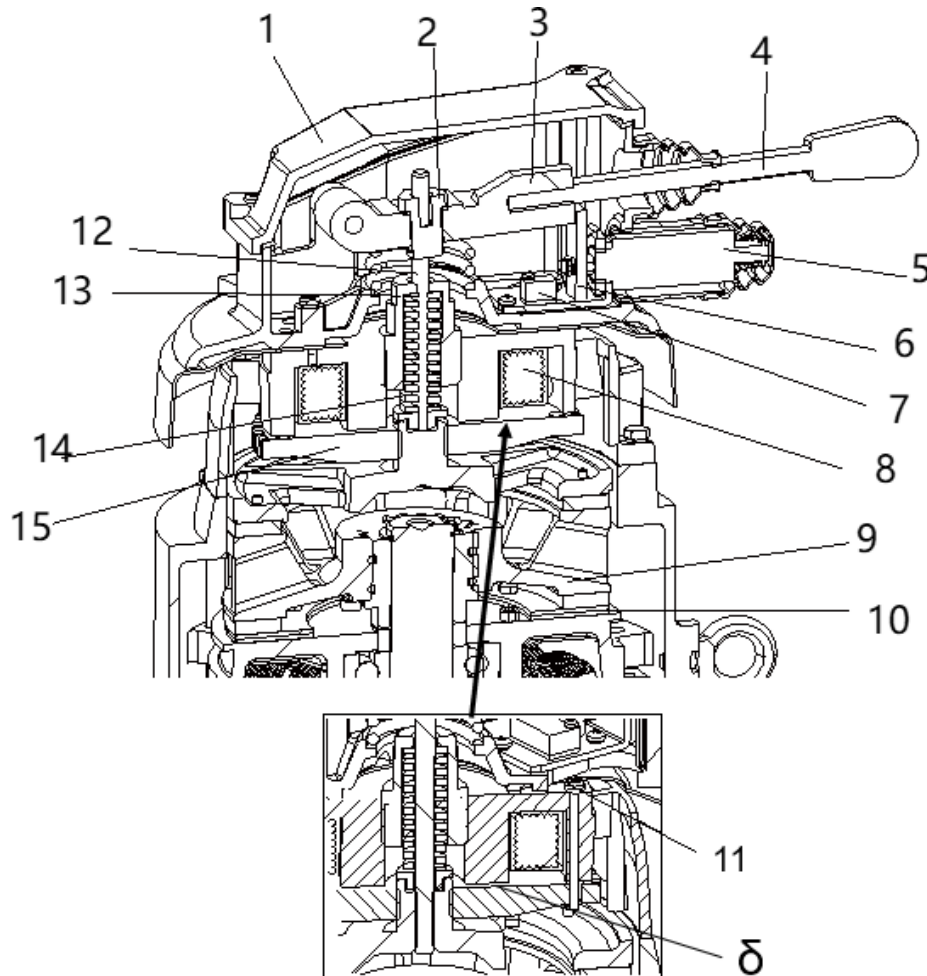

Fig. 6-28 Brake structure
6.7.2.3 Clearance adjustment and maintenance (1)
For conventional brake structure as shown in Fig. 6-28, brake friction plate (13) after long-term use of friction losses, armature (10) and field core (9) increase the air gap δ , brake spring (16) length increases, reduce the braking moment, because the air gap δ may increase at the same time, the armature (10) have difficult in actuation, serious will not be able to actuation, result the motor in braking state, and then the motor burnout. There before, it is necessary to check the air gap δ value frequently. When the static braking moment is less than the stipulate value or greater than 1.2mm, the δ should be adjusted in time. And if the friction plate (13) is worn to close to its steel mail, the friction plate (13) should be replaced in time.